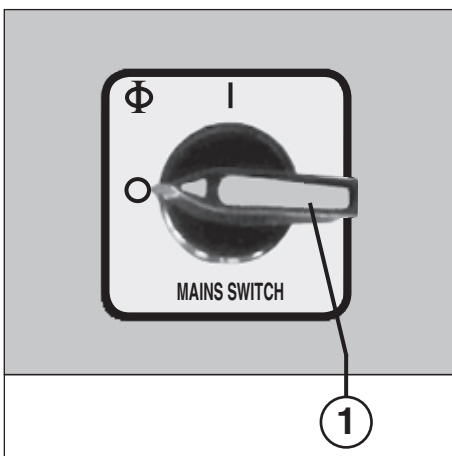

Fig. 1
1. Move the main switch (1) (fig. 1) to position „1“.
OPERATING FUNCTIONS (Figs. 1, 2 and 4):
1 = Mains switch (Emergency-stop) (fig. 1)